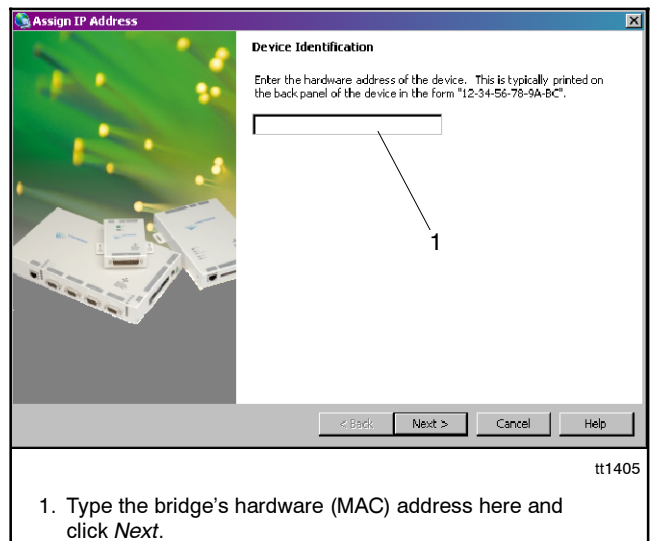

Figure 28 Enter Hardware (MAC) Address
- c. Enter the bridge's hardware address (MAC address) in the first *Assign IP Address* window. See Figure 28. The MAC address is printed on the bridge's label. See Figure 7. Include dashes between each pair of characters. The letters are not case-sensitive. Example: 00-20-3A-44-F5-6C.